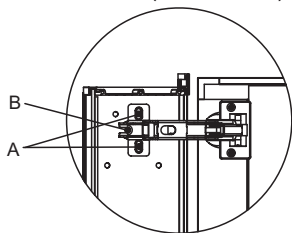

Fig.6 图6
- This screw releases the door from the cabinet and allows up and down adjustment. Fig.6-A & 7.
此螺钉松开可将门卸下，并可作上下位置调整，如图6-A、7所示。
- These screws allow you to plumb the door as shown in Fig.6-B & 8.
这些螺钉松开可将门作如图6-B、8所示的前后的位置调整。